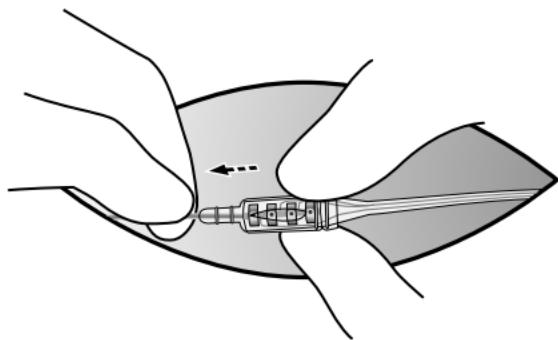

Figure 18. Remove the lead from setscrew connector block.
7. Stabilize the lead and gently remove the lead from the setscrew connector blocks (Figure 18).